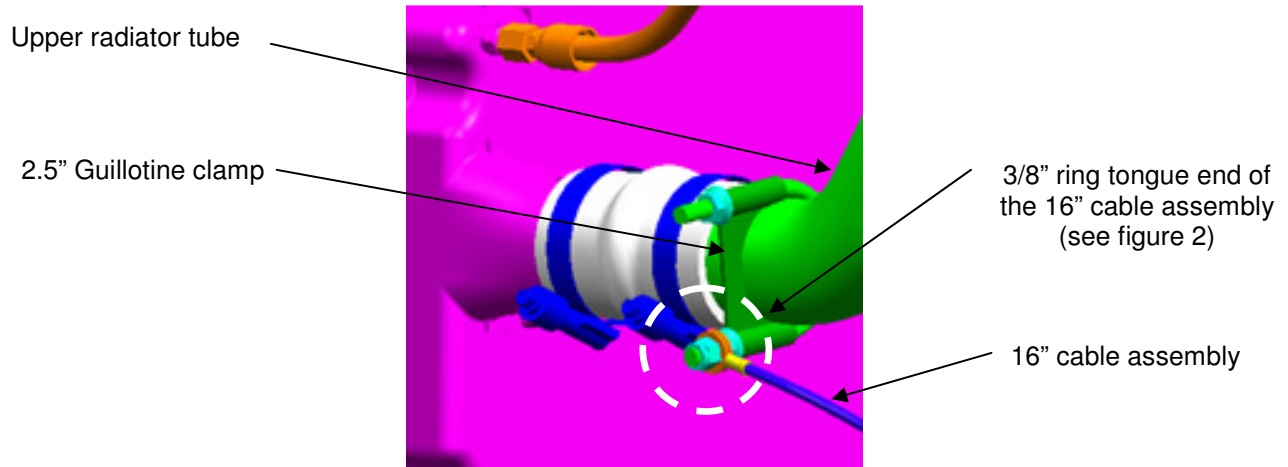

Figure 6: Radiator and Upper Coolant Tube Ground Strap Installation
9. Install one of the 2.5" guillotine clamps from the parts kit to the existing upper radiator tube at the approximate location and orientation shown in Figure 6, torque to 20 ± 2 ft*lbs.